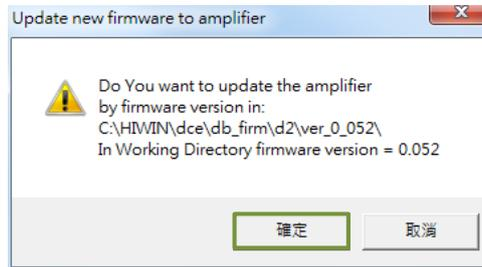

Figure 12.1.6
Step 3. After that, the dialog window of Figure 12.1.6 will show up.